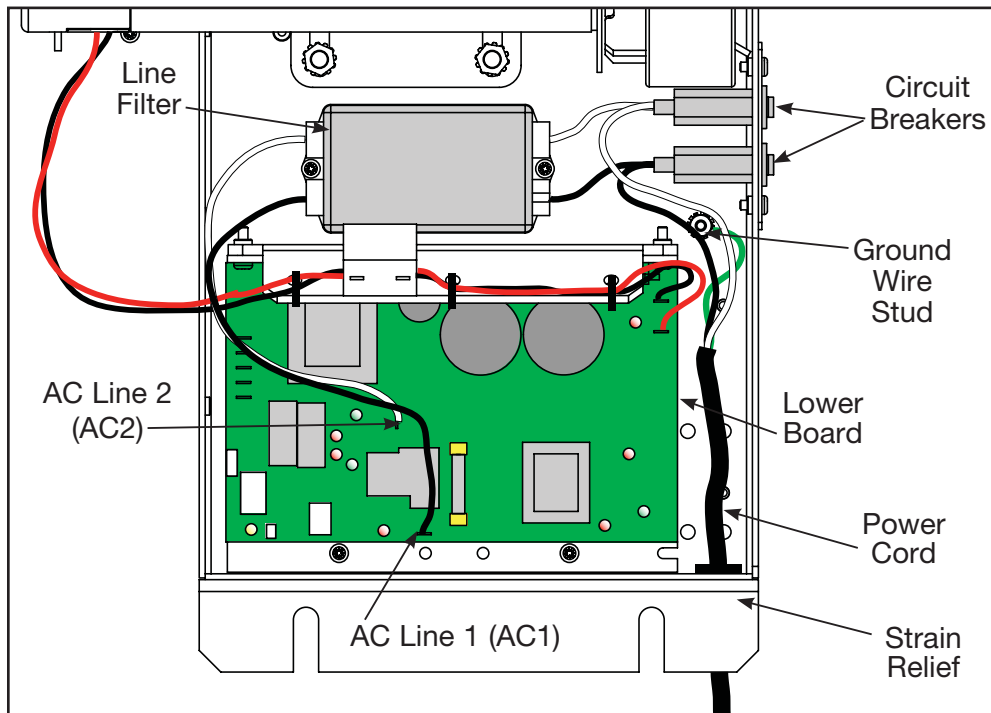

Figure 18
- A.** Using a 3/8" nutdriver or socket wrench remove the nut securing the ground wire to the motor base plate. See Figure 18.
- B.** Unplug the black and white fast-on connectors from the circuit breakers. See Figure 18.
- C.** Connect the black fast-on connectors from the power cord to the circuit breaker with the black wire. See Figure 18.
- D.** Connect the white fast-on connectors from the power cord to the circuit breaker with the white wire. See Figure 18.
- B.** Connect the two white fast-on connectors the the front circuit breaker. See Figure 18.
- C.** Connect the two black fast-on connectors the the front circuit breaker. See Figure 18.
- Disconnect the two fast-ons connectors that go from the line filter to the lower board (cables labeled AC1 and AC2 on the lower board). See Figure 18.
- Disconnect the two fast-ons connectors that go from the line filter to the circuit breakers. See Figure 18.
- Connect the white cable (AC2) from the lower board to the front left terminal on the line filter. See Figure 18.
- Connect the black cable (AC1) from the lower board to the back left terminal on the line filter. See Figure 18.
- Connect the white cable from the circuit breaker to the front right terminal on the line filter. See Figure 18.
- Connect the black cable from the circuit breaker to the back right terminal on the line filter. See Figure 18.